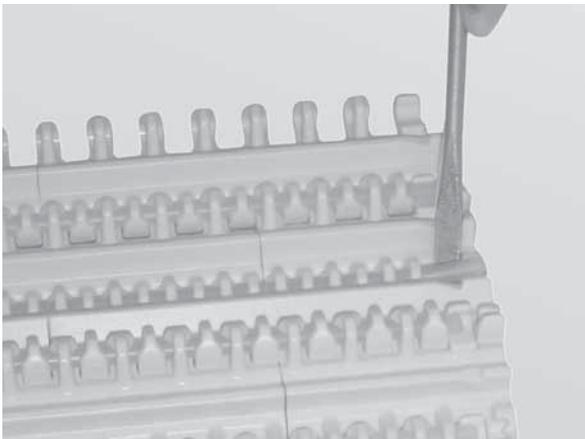

Figure 56
1. Place the edge of a flat head screwdriver between the two belt links and turn clockwise (Figure 56).